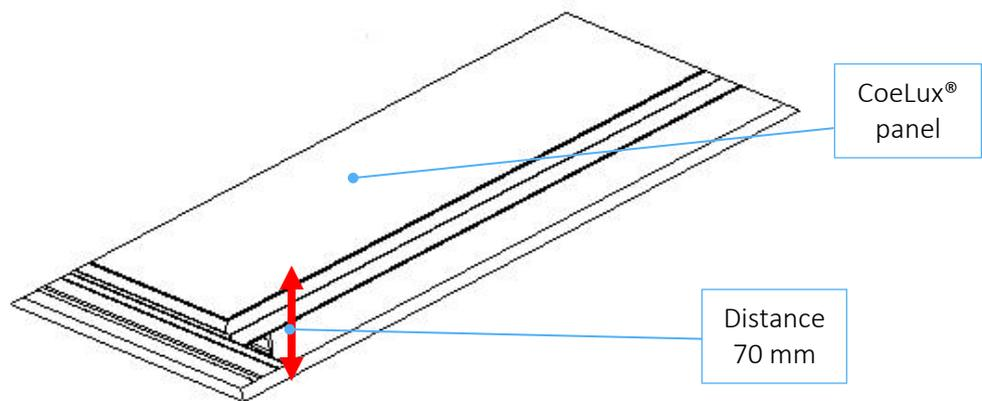

Fig. 15 Mounting to the structural ceiling: step D.
- D. Then proceed to ensure the lower surface of the false ceiling is 70mm from the CoeLux® panel, as shown in Figure 15 (this distance can vary for installations using an IBLA louvre). The false ceiling opening for the window must measure 552x322 mm (563x333 mm for the IBLA *louvre*). Prepare a trap door to allow for maintenance and to be able to dismantle the system (recommended solution: 800x800 trapdoor with central window and squared up to the system).